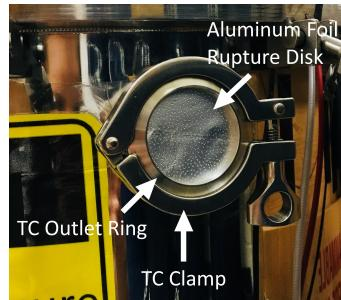

Figure 1: Ensure the rupture disk is present and intact
2. Ensure the vessel rupture disk is intact and positioned correctly (See Figure 1)